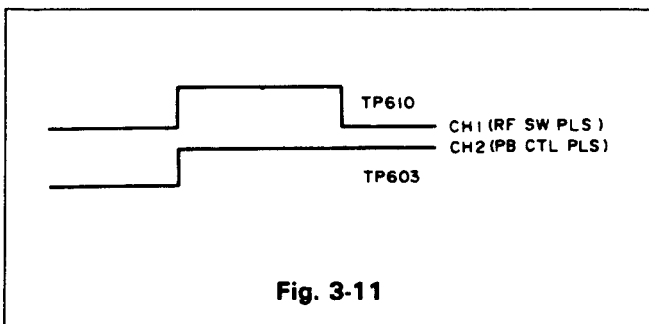

Fig. 3-11
- (1) Connect channel 1 of the oscilloscope to TP610 of the S/S/A/V circuit board. Also, connect channel 2 of the oscilloscope to TP603 of the S/S/A/V circuit board.
- (2) Play back the MH-2 alignment tape.
- (3) Adjust VR603 so that the leading edge of CTL PLS is synchronized with the leading edge of the RF switching pulse as shown in Fig. 3-11.